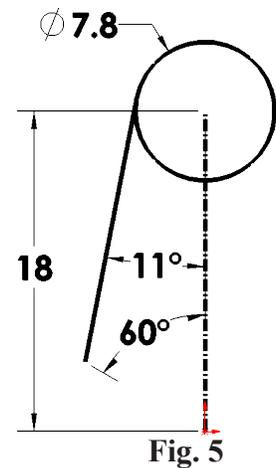

Fig. 5
Step 9. Click **Smart Dimension**  (S) on the Sketch toolbar.
Step 10. Add dimensions, **Fig. 5**. To dimension the 60° angle, click the centerline, and the bottom endpoint (Origin) and then bottom endpoint of the line.